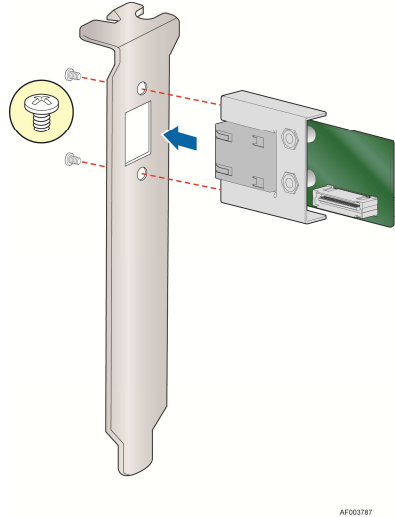

Figure 20: Mounting the Intel® Dedicated Server Management NIC Module to the PCI Slot Bracket
- Secure the metal fastening bracket with the NIC module to the PCI slot bracket with two screws as shown in Figure 20. This will align the RJ-45 with the opening in the PCI slot bracket.